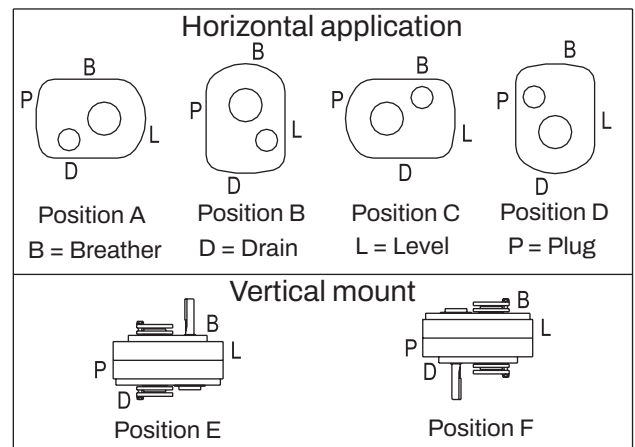

Figure 1 - Mounting Positions
2. Determine the running positions of the reducer. (See Fig. 1) Note that the reducer is supplied with either 6 plugs; 4 around the sides for horizontal installations and 1 on each face for vertical installations. These plugs must be arranged relative to the running positions as follows:
The running position of the reducer in a horizontal application is not limited to the four positions shown in Figure 1. However, if running position is over 20° either way from sketches, the oil level, plug cannot be safely used to check the oil level, unless during the checking the Torque-Arm is disconnected and the reducer is swung to within 20° in positions "B" and "D" or 5° in positions "A" and "C" of the possible positions shown in Figure 1. Because of the many possible positions of the reducer, it may be necessary or desirable to make special adaptations using the lubrication fitting holes furnished along with other standard pipe fittings, stand pipes and oil level gages as required.
① Refer to Figure 1 for mounting positions
② U.S. Measure: 1 quart = 32 fluid ounces = .94646 liters.
NOTE: If reducer position is to vary from those shown in Figure 1 either more or less oil may be required. Contact product support.